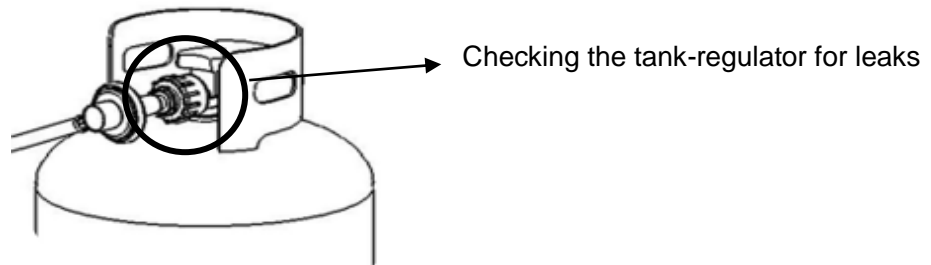

Figure 14
14. Open the tank valve. Apply a solution of soapy water to the tank-regulator connection and to the valve-hose connection to check for leaks as shown in Fig.14. If soap bubbles continue to form, the connection has a leak. If a leak is found, close the tank valve and tighten all connections.